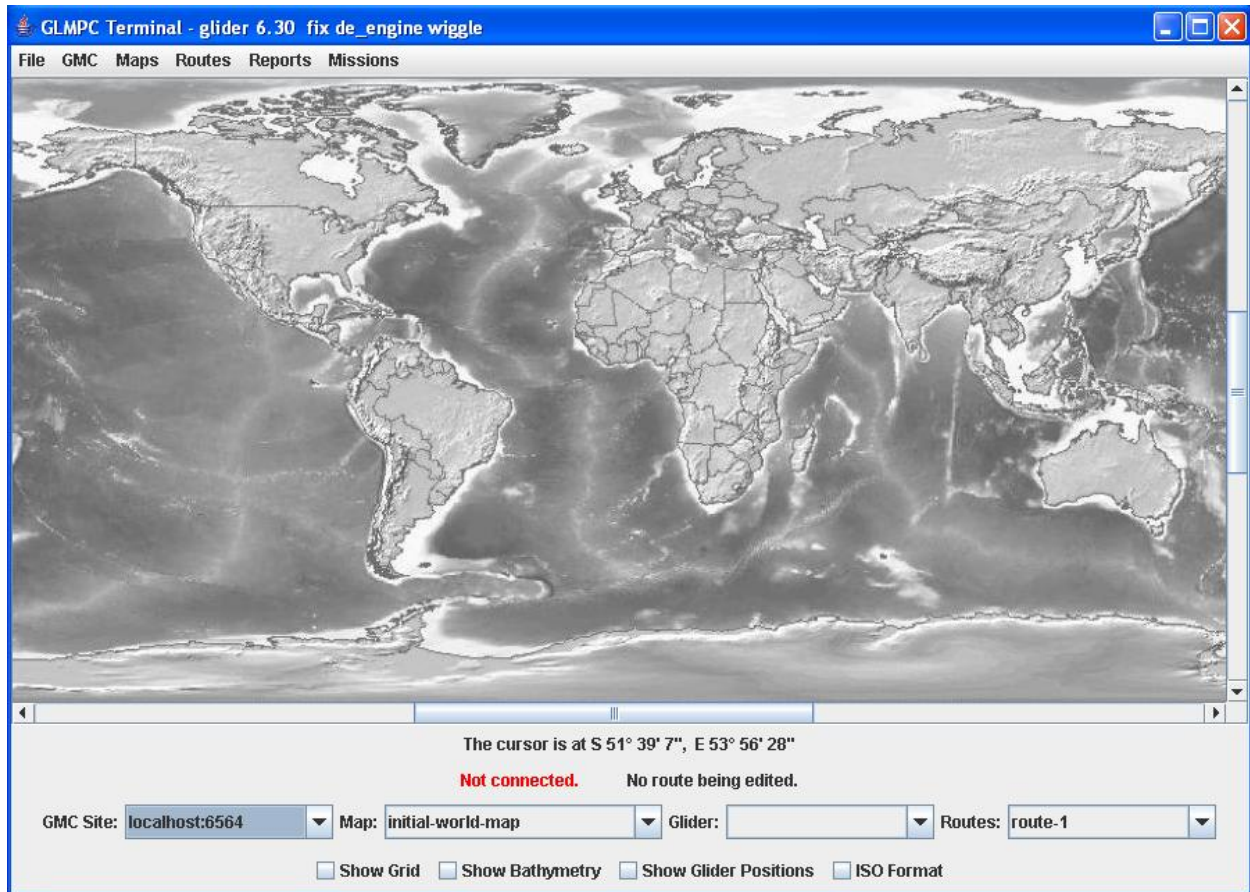

Figure 8-4. Glmpc Terminal Main Window.
Once added to your desktop, the Glmpc Terminal application launches and its main window appears (Figure 8-4). If the world map is not displayed, select *initial-world-map* from the Map combo-box on the lower section of the Glmpc Terminal.
1. Double click the desktop icon labeled “Glmpc Terminal” or select the item labeled “Glmpc Terminal” from the “All Programs” menu (Windows XP). The Glmpc Terminal window should appear (Figure 8-4) with a world map displayed.